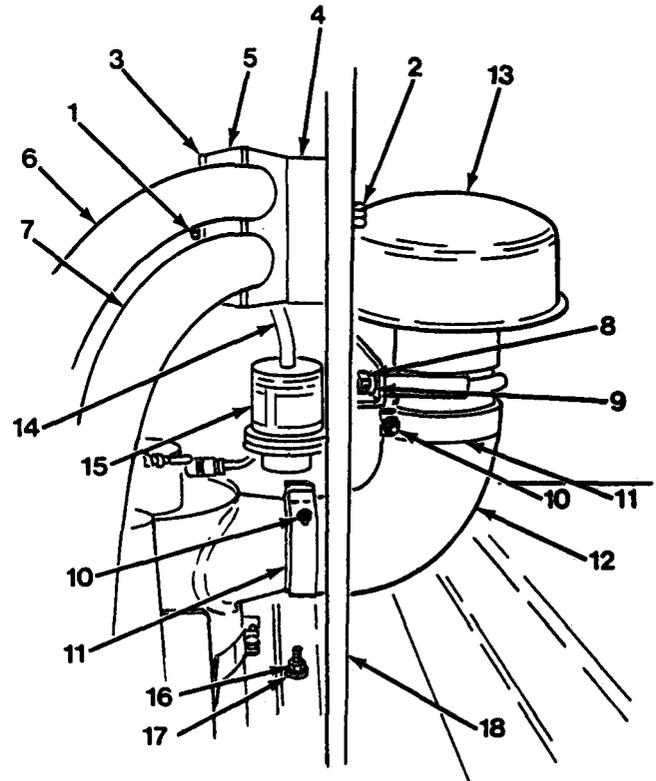

Figure 18-1
3. Remove nut (1), capscrew (2), plate (3), spacer (4) and two clamps (5) from hoses (6) and (7). Remove two nuts (8) and lockwashers (9). Loosen nut (10) on T-clamp (11) and remove 90-degree elbow (12) and stack cap (13). Disconnect restriction indicator hose (14) from restriction indicator (15, Figure 18-1).
4. Remove six nuts (16) washers (17) and hood support (18).